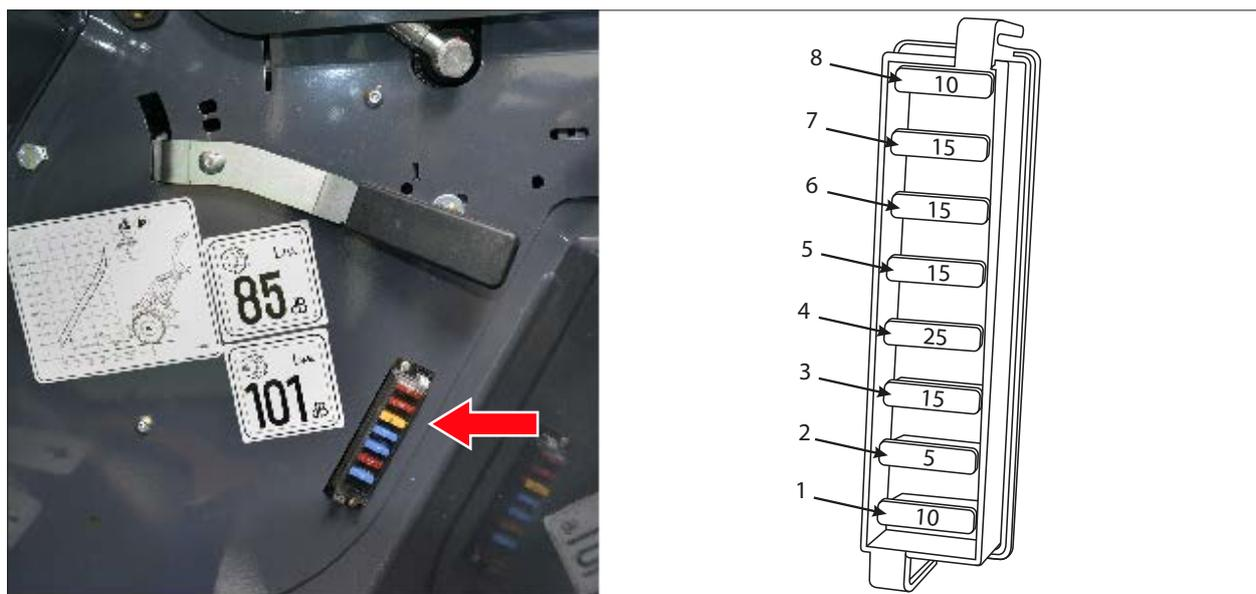

FIG. 49
- 1) Remove the cover located near the parking brake lever (see FIG. 49).